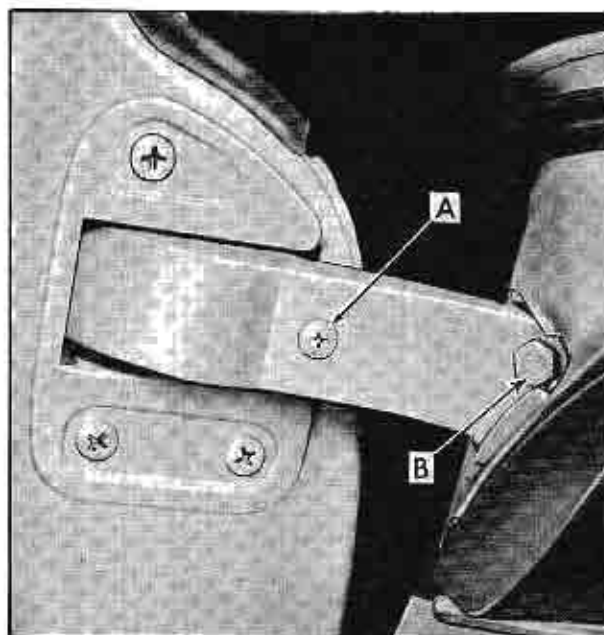

Fig. 3-16 Removing Door Hinge Cover
5. If door and hinge are being removed, remove hinge cover attaching screw and door attaching bolt, Fig. 3-16, from upper hinge and remove cover.